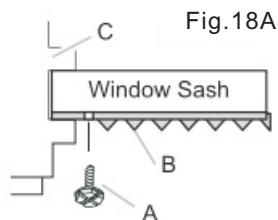
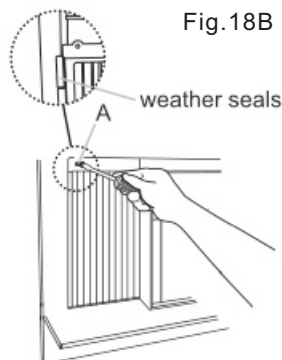

Fig.18A
Fig.18B
2. Use a 1/8" drill bit to drill a starter hole through the hole in the top leg of each window filler panel and into the window sash (Fig. 18A and Fig. 18B). Connect with one 3/4" (or 1/2") long hex head screw.